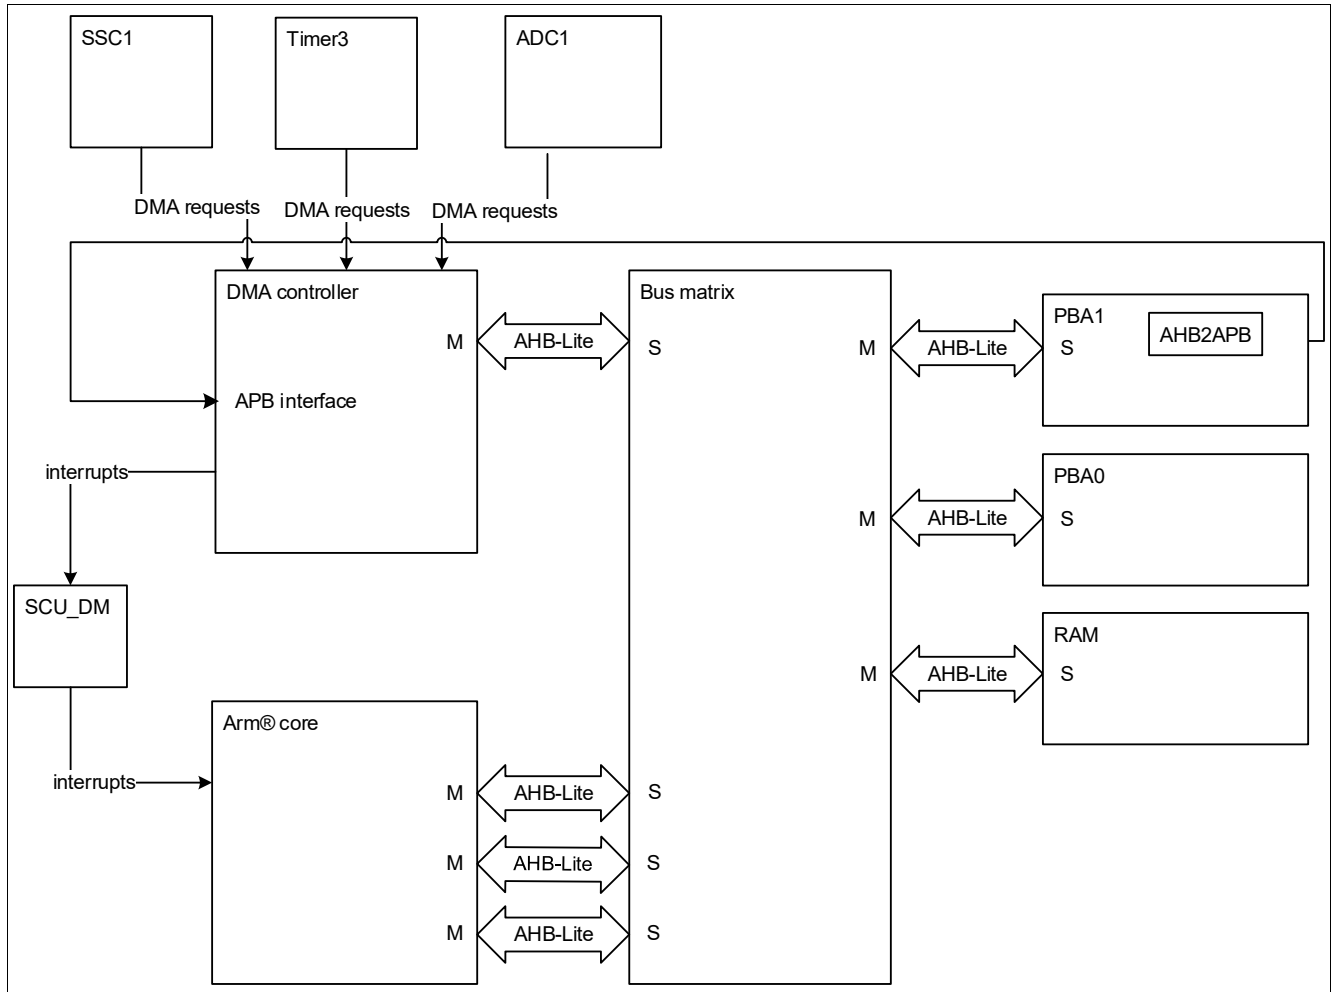

Figure 12 DMA controller top level block diagram
**Figure 12** shows the top level block diagram of the TLE9867QXW20.